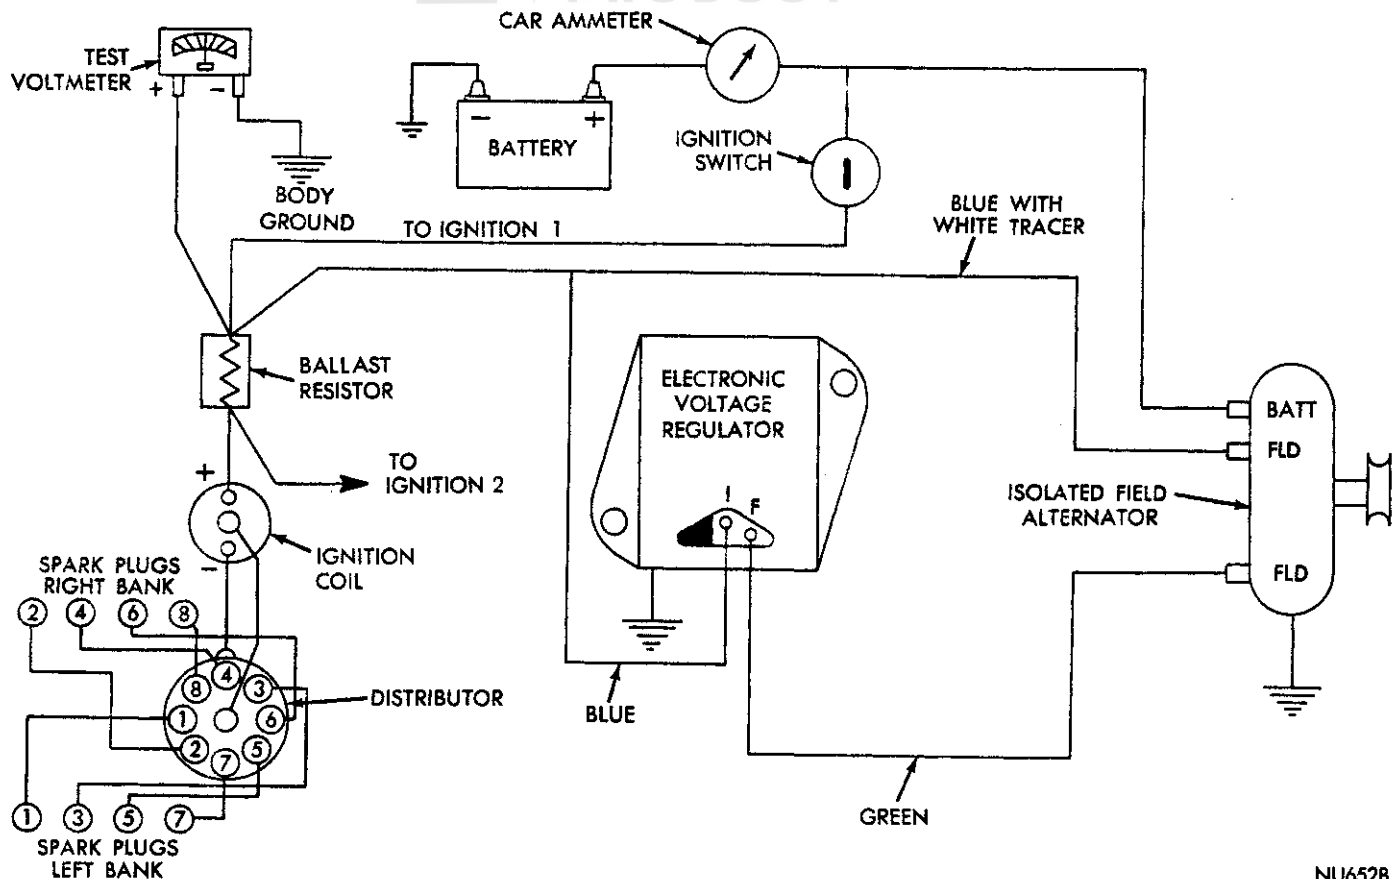

Fig. 5—Voltage Regulator Test (Without Tester Tool C-4133)
(2) Connect the positive lead from a voltmeter to the ignition Number one (1) terminal of the ballast resistor. (The Ignition Number one (1) terminal of the ballast resistor is the end which has one or two blue wires connected to it). The other end, Ignition Number two (2), will have a brown and blue wire or just a brown wire connected to it (Fig. 5).
(3) Connect the negative lead from the voltmeter to a good vehicle body ground.
(4) Start and operate engine at 1250 rpm with all